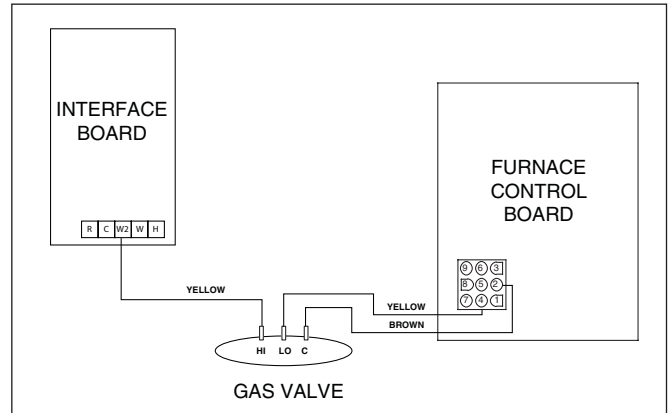

Figure 2. 92+ Furnace Gas Valve Wiring
- Connect the yellow wire from the W2 terminal of the auxiliary board in the IQ Drive blower kit to the high side terminal of the gas valve. (See Figure 2)